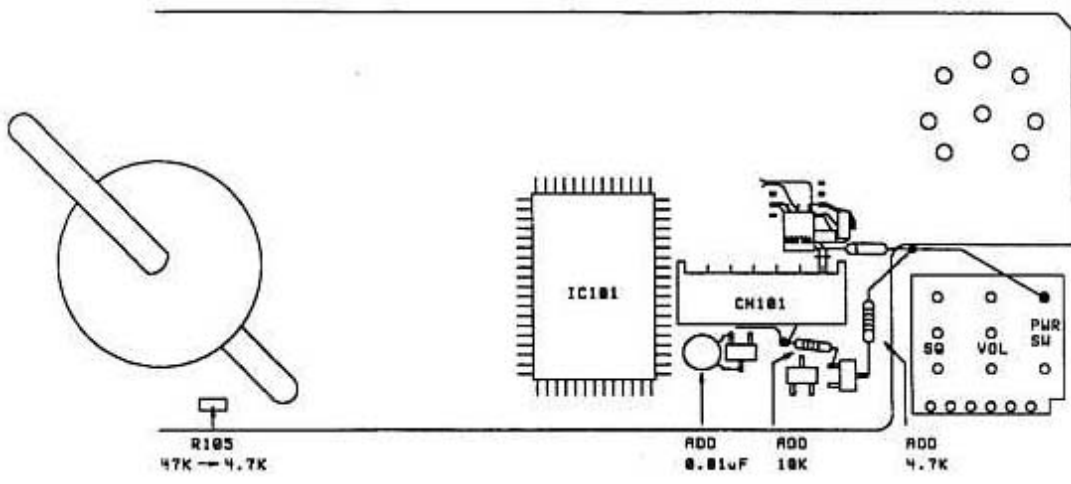

FIGURE 10
21. Prepare the 0.01 μF capacitor, 10 Kohm resistor, and 4.7 Kohm resistor for installation. Place the parts on the board to size and cut the leads. Once the parts are prepared, solder them to the board. Figure 10.
22. Locate R105. If the component is 47 Kohm, change it to a 4.7 Kohm chip resistor. The component's value can be determined by the numbers written on the case. If the device is labeled 473, it is a 47 Kohm resistor and needs to be replaced. If the device is labeled 472, it is a 4.7 Kohm resistor and does not need to be replaced. Figure 10.